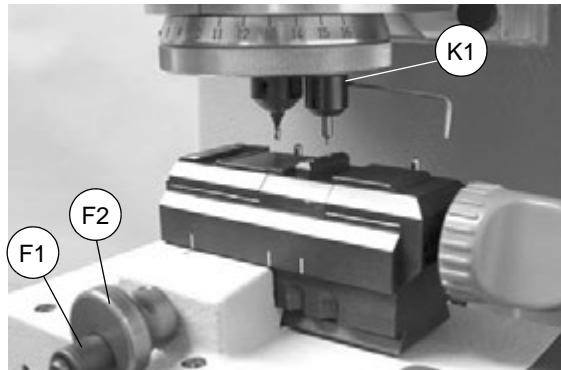

Fig. 39
- Loosen grub screw (K1) (fig. 39).
- Tighten the grub screw (K) to secure the decoder.
- Tighten the grub screw (K1) (fig. 39, page 45).
- Turn the (F) knob to the left and remove the Z22 template.